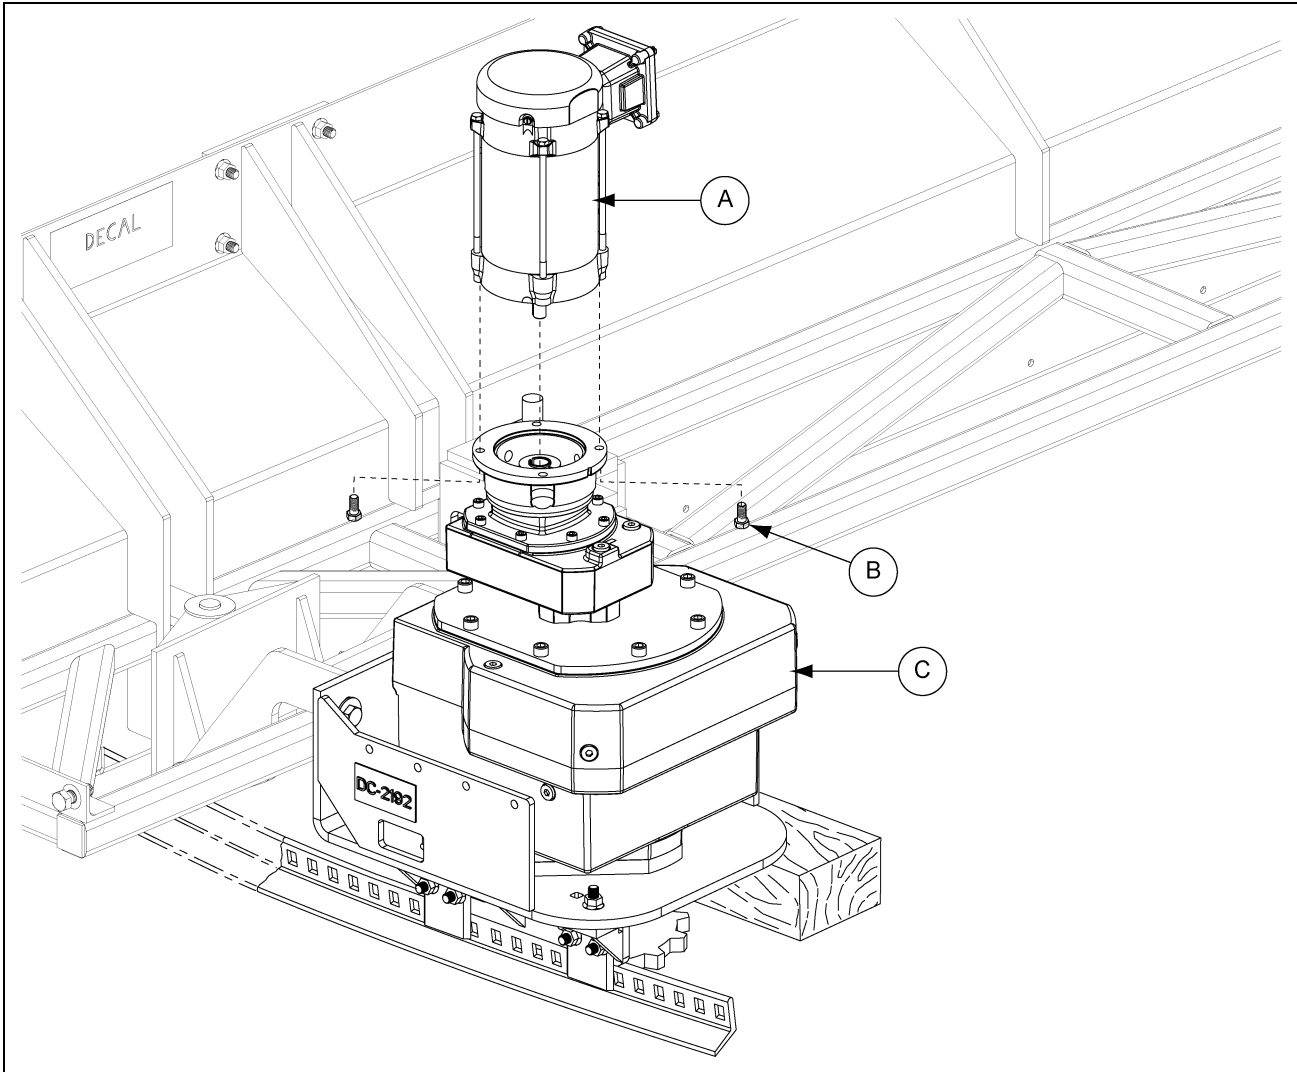

Figure 8H
- 1. Using the appropriate lifting device, carefully lift and install track drive motor (A) to gearbox (C) using hex bolts (B). (See Figure 8H.)